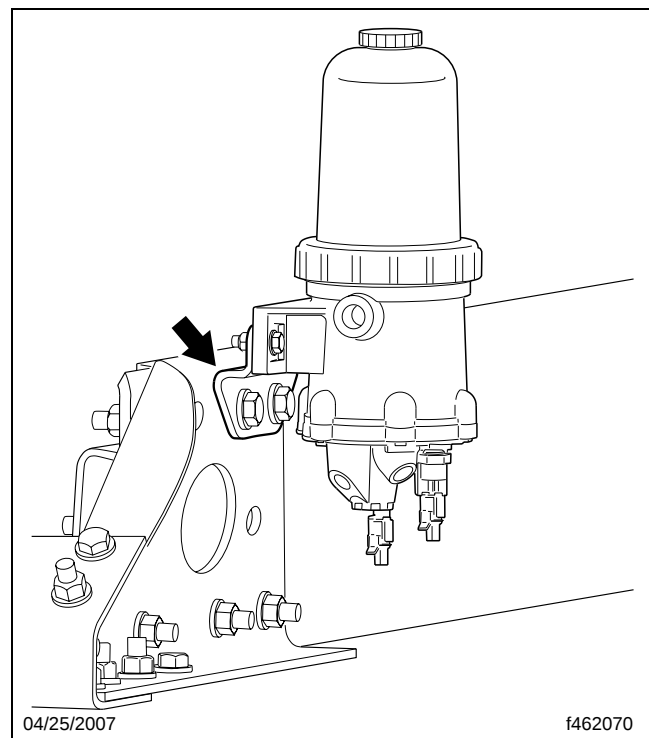

Fig. 6, Fuel/Water Separator Mounting Bracket
32. Install the fuel/water separator in the new location, as shown in **Fig. 6**.